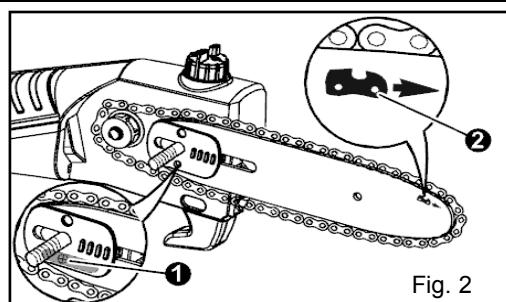

Fig. 2
NOTE: Check for correct seating of the guide screw on the rear side of the bar in the guiding groove (Fig. 2 ①).
NOTE: Ensure that the chain moves in the correct direction (Fig. 2 ②).